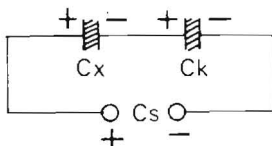

Figure 1
2. Place the unknown capacitor ( $C_x$ ) in series with the known value capacitor (see Figure 1).